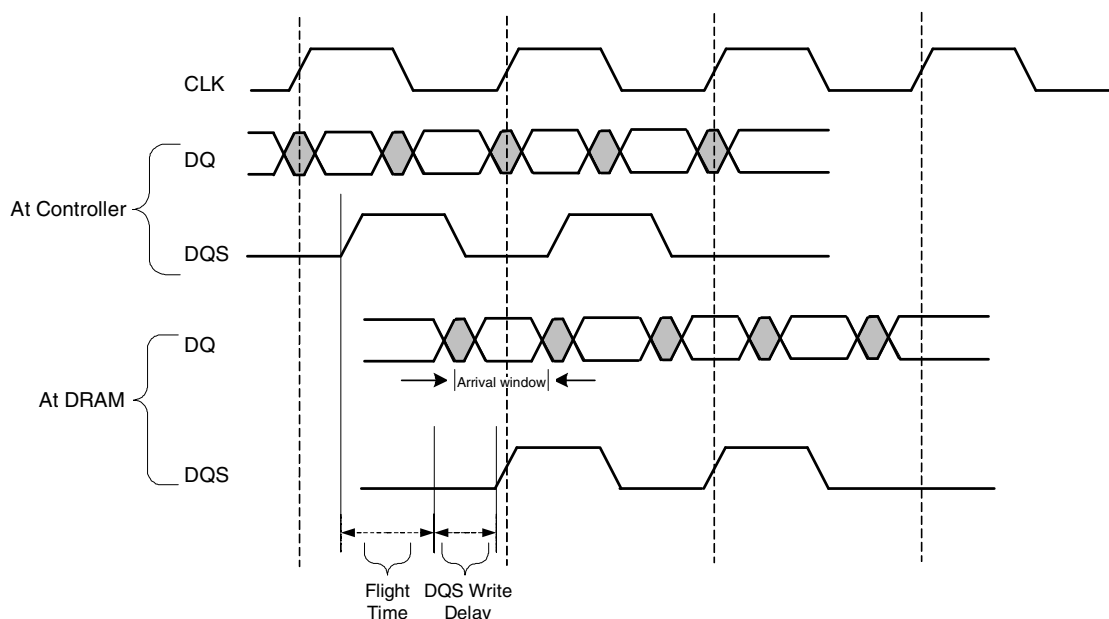

Figure 12-9. DQS Write Timing
- The first rising edge of the data strobe signal sent from the memory controller must occur near the rising edge of the clock at the DRAM. This is called the arrival window. DRAM devices typically specify this window as $0.8clk$ to $1.2clk$. Refer to Figure 12-9 for details.